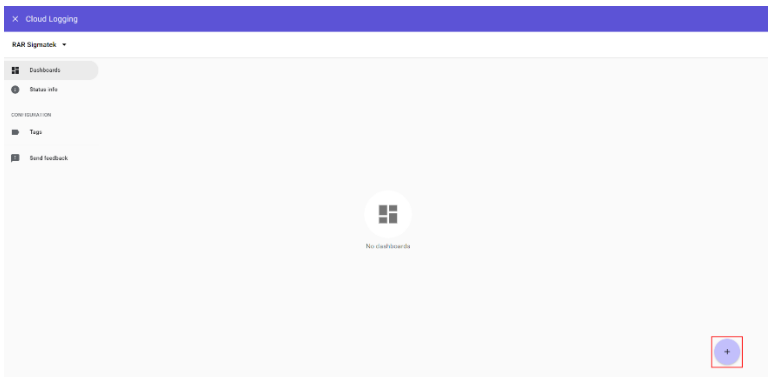

Figure 5.81 Create a new dashboard by clicking the “+” button.
2. Click on the “+” button to create a new dashboard (Figure 5.81). Dashboards may be imported from file or created from scratch.